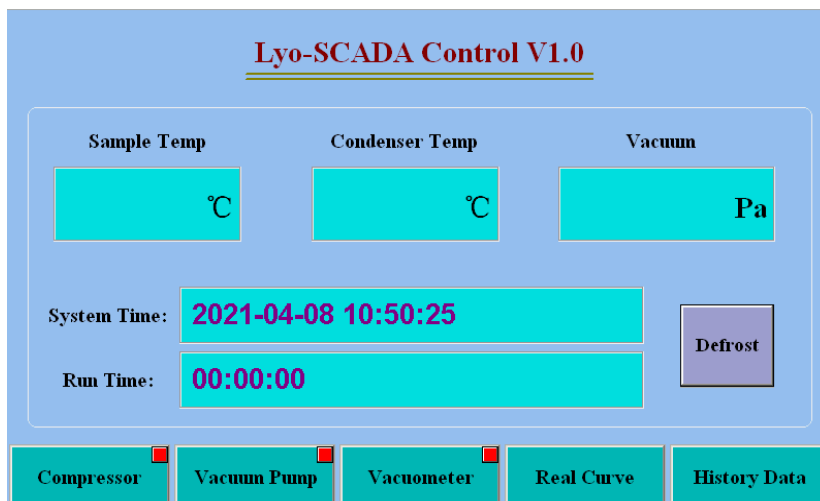

Fig.2 Main Screen
2. Press the login icon on the lower right corner, the system will switch into the main screen. As shown in Fig.2.